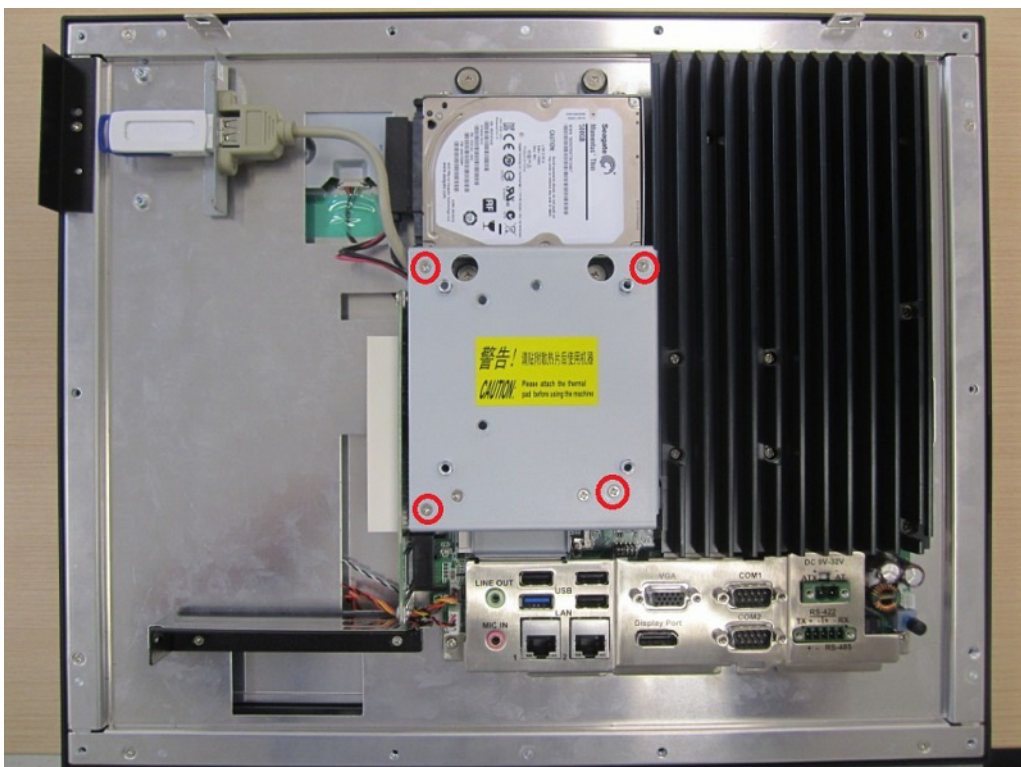

Figure 2.51
3. Replace the VESA mount plate (as shown in Fig. 2.51) and secure in place using four screws. Then replace the rear cover to complete the installation.